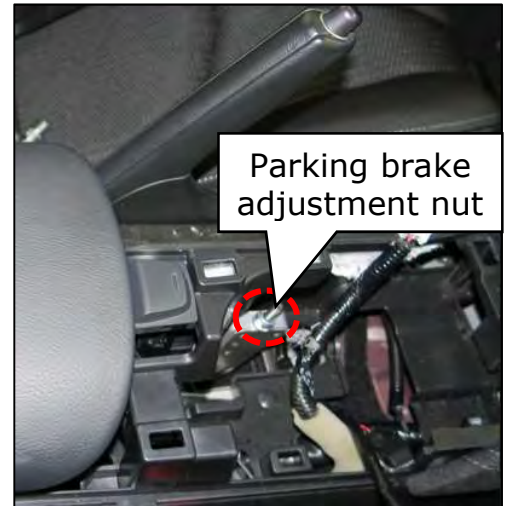

Figure 139
- b) Tighten the parking brake lever adjustment nut several turns Figure 139